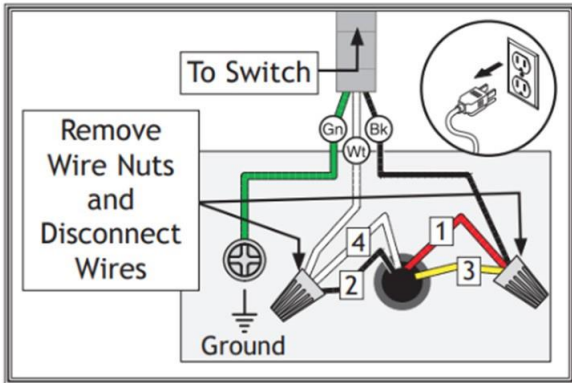

Figure 4: diagram of the motor's connection box.
- 3 - Open the motor connection box, remove the two wire nuts, see figure 4, then disconnect the wires.